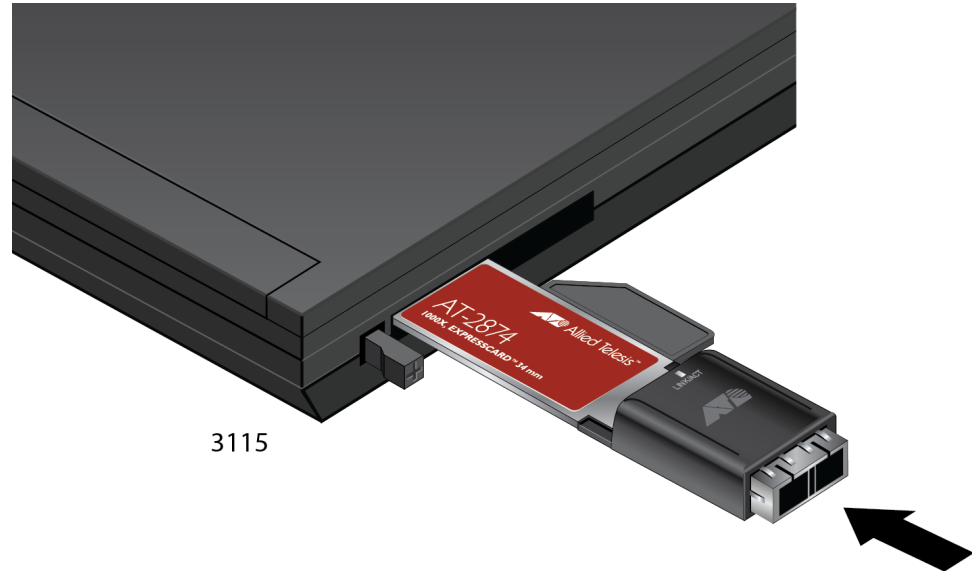

Figure 10. Inserting the Unit into the 54mm Slot
6. Applying even pressure at both corners of the ExpressCard, push the card until it is firmly seated in the PCI ExpressCard slot. Figure 10 on page 25 shows how to insert the card in the 54mm slot.